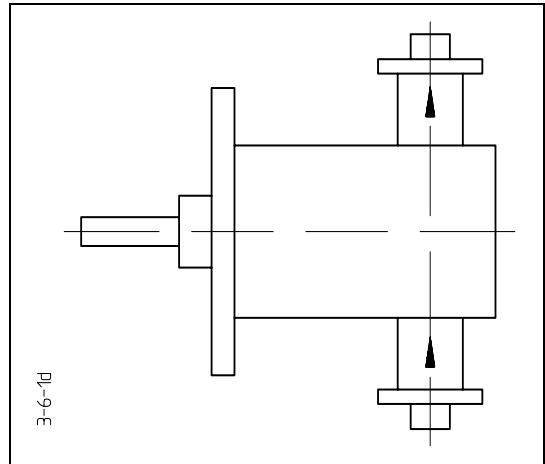

Fig. 3.1: Pump head
**Configuration:** Pump head (see Fig. 3.1)
Pay attention to the direction arrow of the valves (see Fig. 3.1 to 3.8).